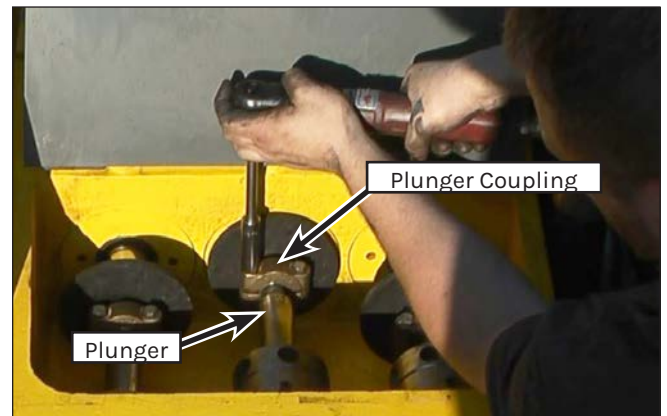

Figure 188: Plunger Coupling Installation.
19. Install the three plunger couplings, connecting the plungers to the pony rods (Figure 188).